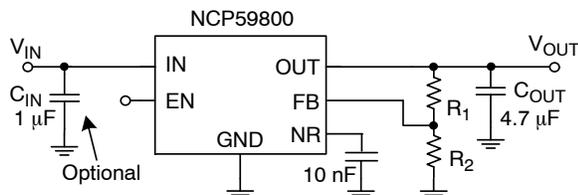

Figure 24. Typical Application Schematics
The NCP59800 regulator is equipped with Noise Reduction pin (NR) for noise sensitive applications. A noise reduction capacitor (CNR) at the NR pin bypasses noise generated by the bandgap reference. This family of regulators offers sub-bandgap output voltages, current limit, and thermal protection, and is fully specified from -40°C to +125°C, assuming resistors with zero error. For the actual design, pay attention to any resistor error factors. Figure 24 gives the Typical Application Schematics.